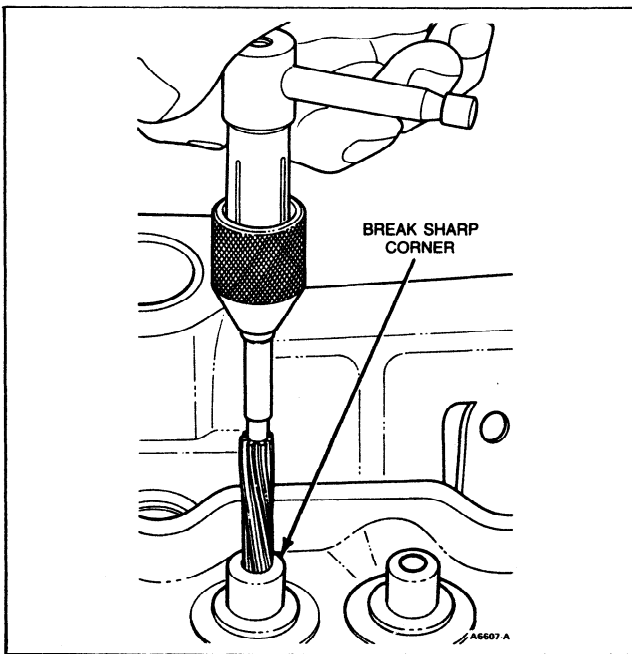

FIG. 8 Reaming Valve Guides
If it becomes necessary to ream the valve guide (Figure 8), to an oversize valve always use the reamer in sequence. **Always reface the valve seat after the valve guide has been reamed, and use a suitable scraper to break the sharp corner (ID) at the top of the valve guide.**